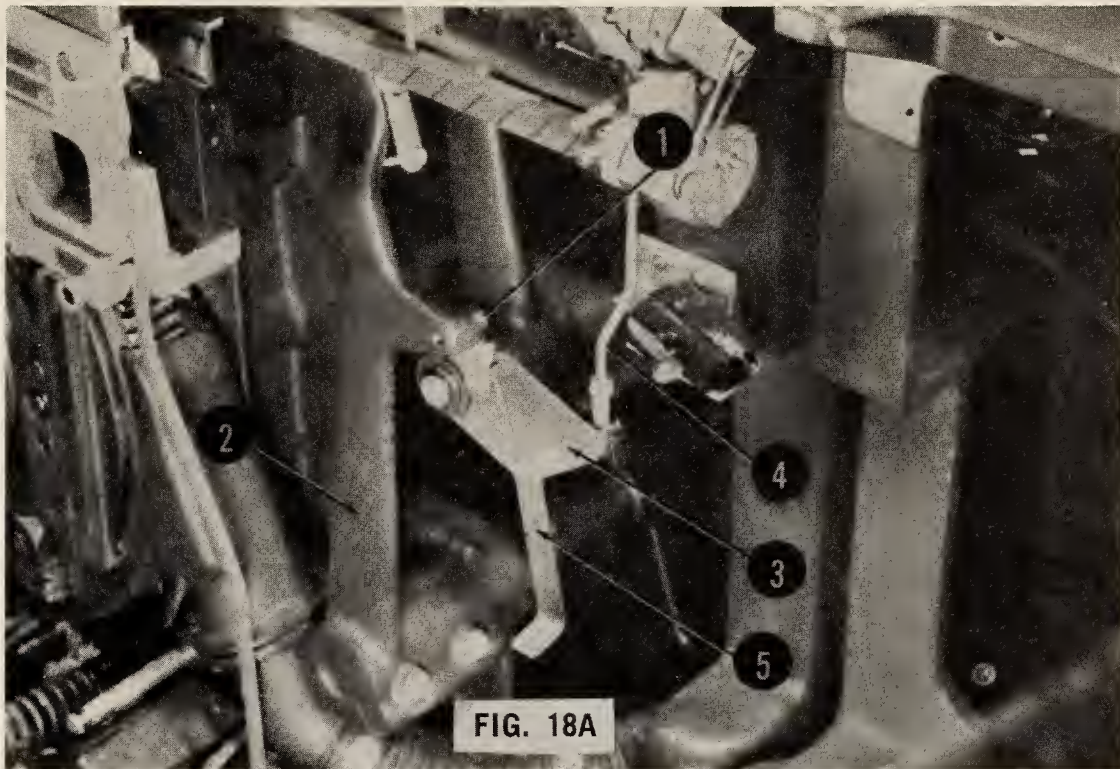

FIG. 18A
Figure 18A shows the roll (1) on the delivery lever starting to force the cam plate downward starting the relatching operation.